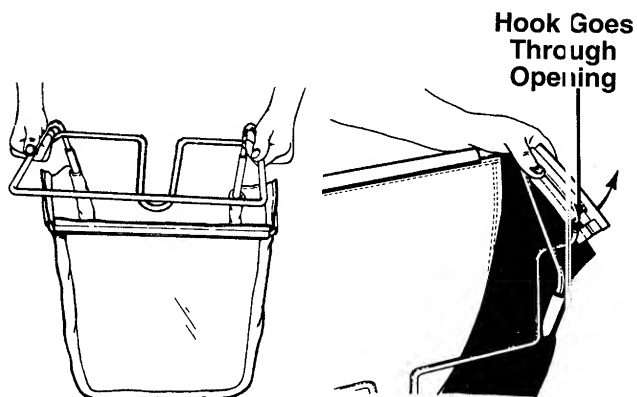

FIGURE 10.
2. Slide the ends of the front frame assembly into the ends of the rear frame as shown in figure 10.
3. Slip the openings in the side of the plastic channel on bag over hooks on the grass catcher frame. See figure 10. ←